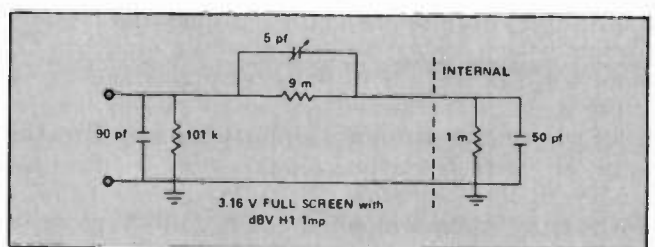
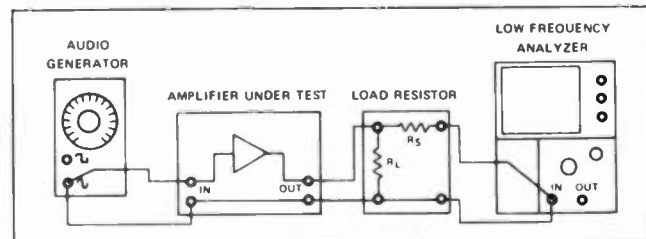

Fig. 8—Schematic of device for matching signal generator output impedance to preamplifier input impedance.
Fig. 10—Functional diagram of test setup for measuring audio amplifier power and distortion with a spectrum analyzer.
designed. The 'pre-amplifier' inputs of an audio amplifier typically should 'see' a 100-Kohm, slightly capacitive impedance, such as the matching device in Fig. 8 would provide. The auxiliary inputs of audio amplifiers typically should be fed in series with a resistance of 5K ohms (+5%).
measure the power output and harmonic distortion of an audio amplifier. The test setup for these measurements is illustrated in Fig. 10.
- 2) Interconnect the amplifier and test instruments as shown in Fig. 10. (The generator output should be applied to the preamplifier inputs of all channels through appropriate impedance-matching devices like those in Fig. 8.)